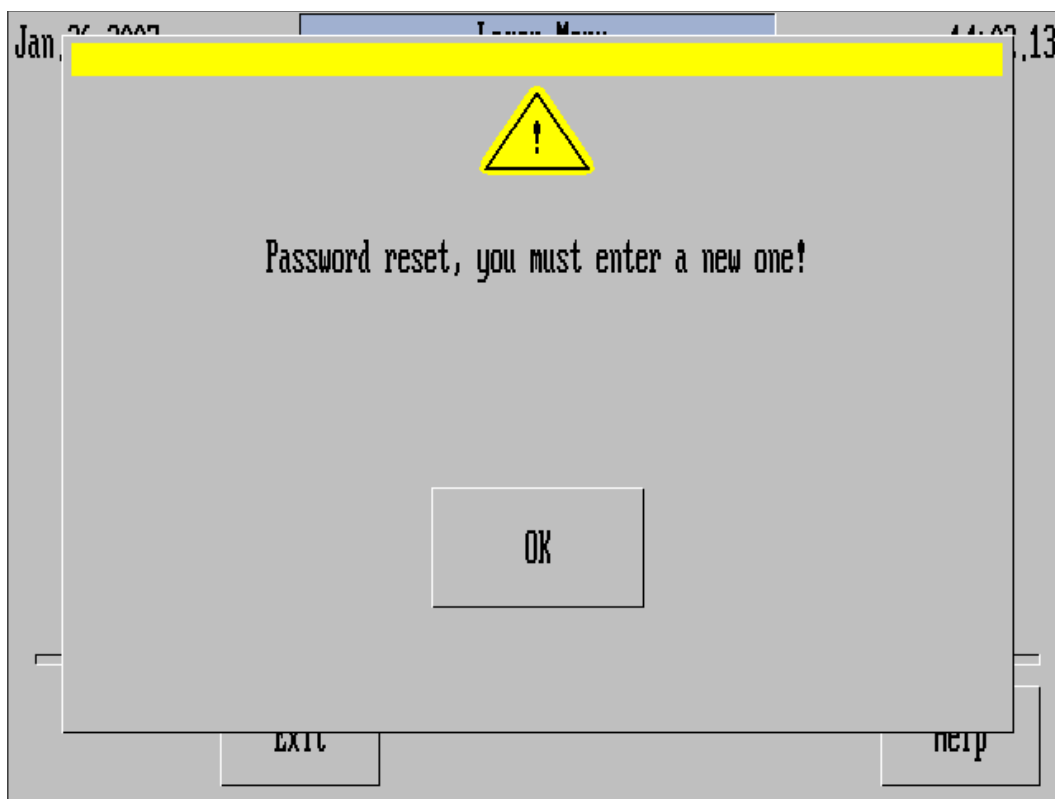

Figure 6-19: Password Warning
4. A screen will appear that warns the user that their password has been reset and that they need to create a new one (see Figure 6-19); press the OK button.